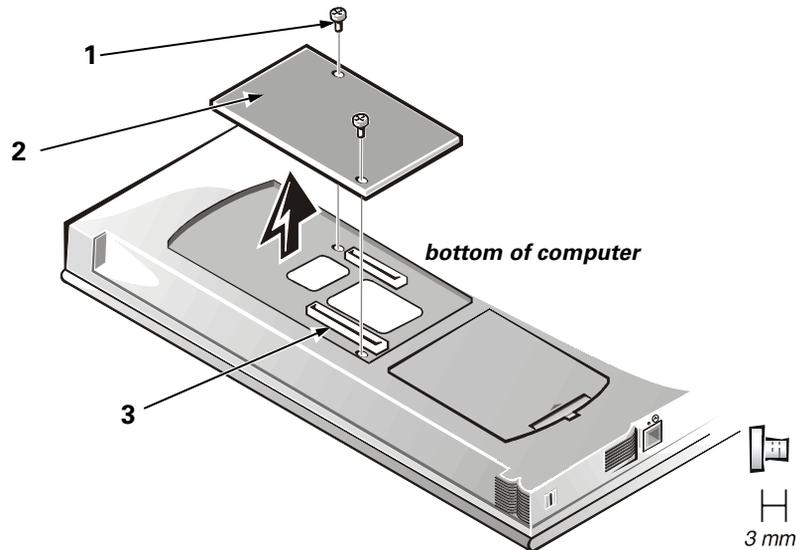

Figure 8. Video Card Removal
10. Remove the video card (see Figure 8).